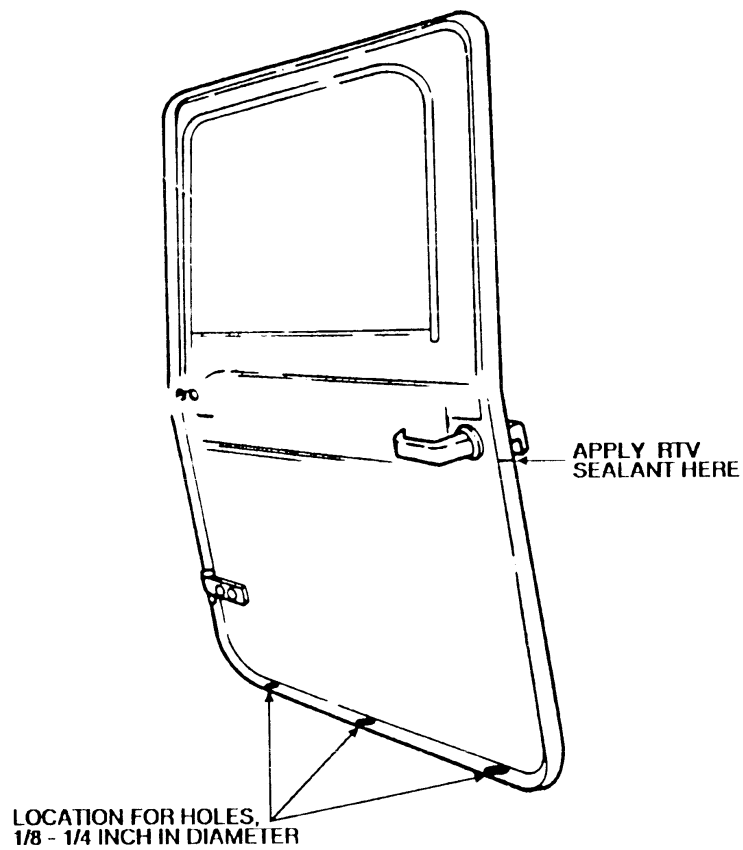

FIGURE 4-1
A. It's been said that the soft top door seals fill up with water at the seam by the door handles. Is this happening to you? If yes, here is a quick and simple fix. Put three small drain holes in the bottom of the seal. This will allow the water to drain. (see figure 4-1)